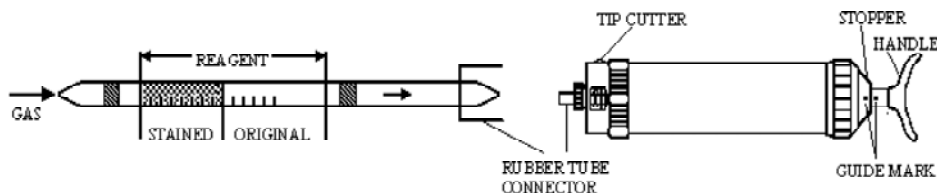

Fig.1
- ② Insert the detector tube into aspirating pump securely as shown in Fig.1. (Arrow mark shall point to the pump.)
- ③ Align the guide marks on the shaft and stopper of the aspirating pump.
- ④ Pull the pump handle at full stroke until it locks and wait for 3 minutes or until the completion of sampling is confirmed with the flow indicator of the pump (See descriptions about the flow indicator in the instructions of the pump).